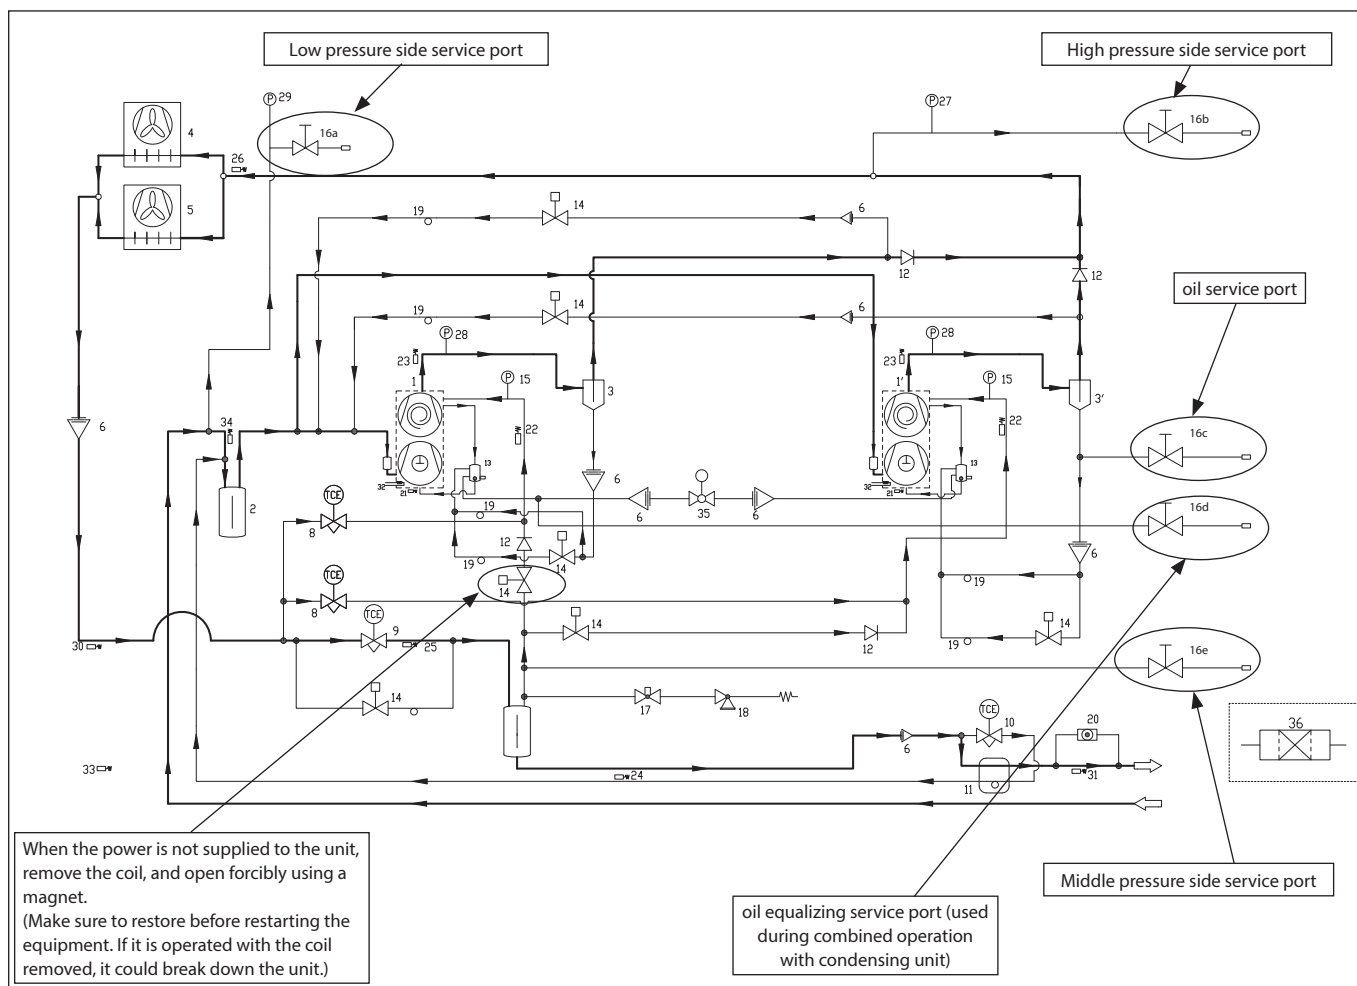

Fig. 17
- After the airtight test, connect the vacuum pump to the low pressure side service port and high pressure side service port, and evacuate (refer fig. 17).